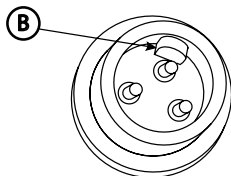

Figure 13. Male Connector
3. On the corresponding male connector, locate the key tab (B) as shown in Figure 13.